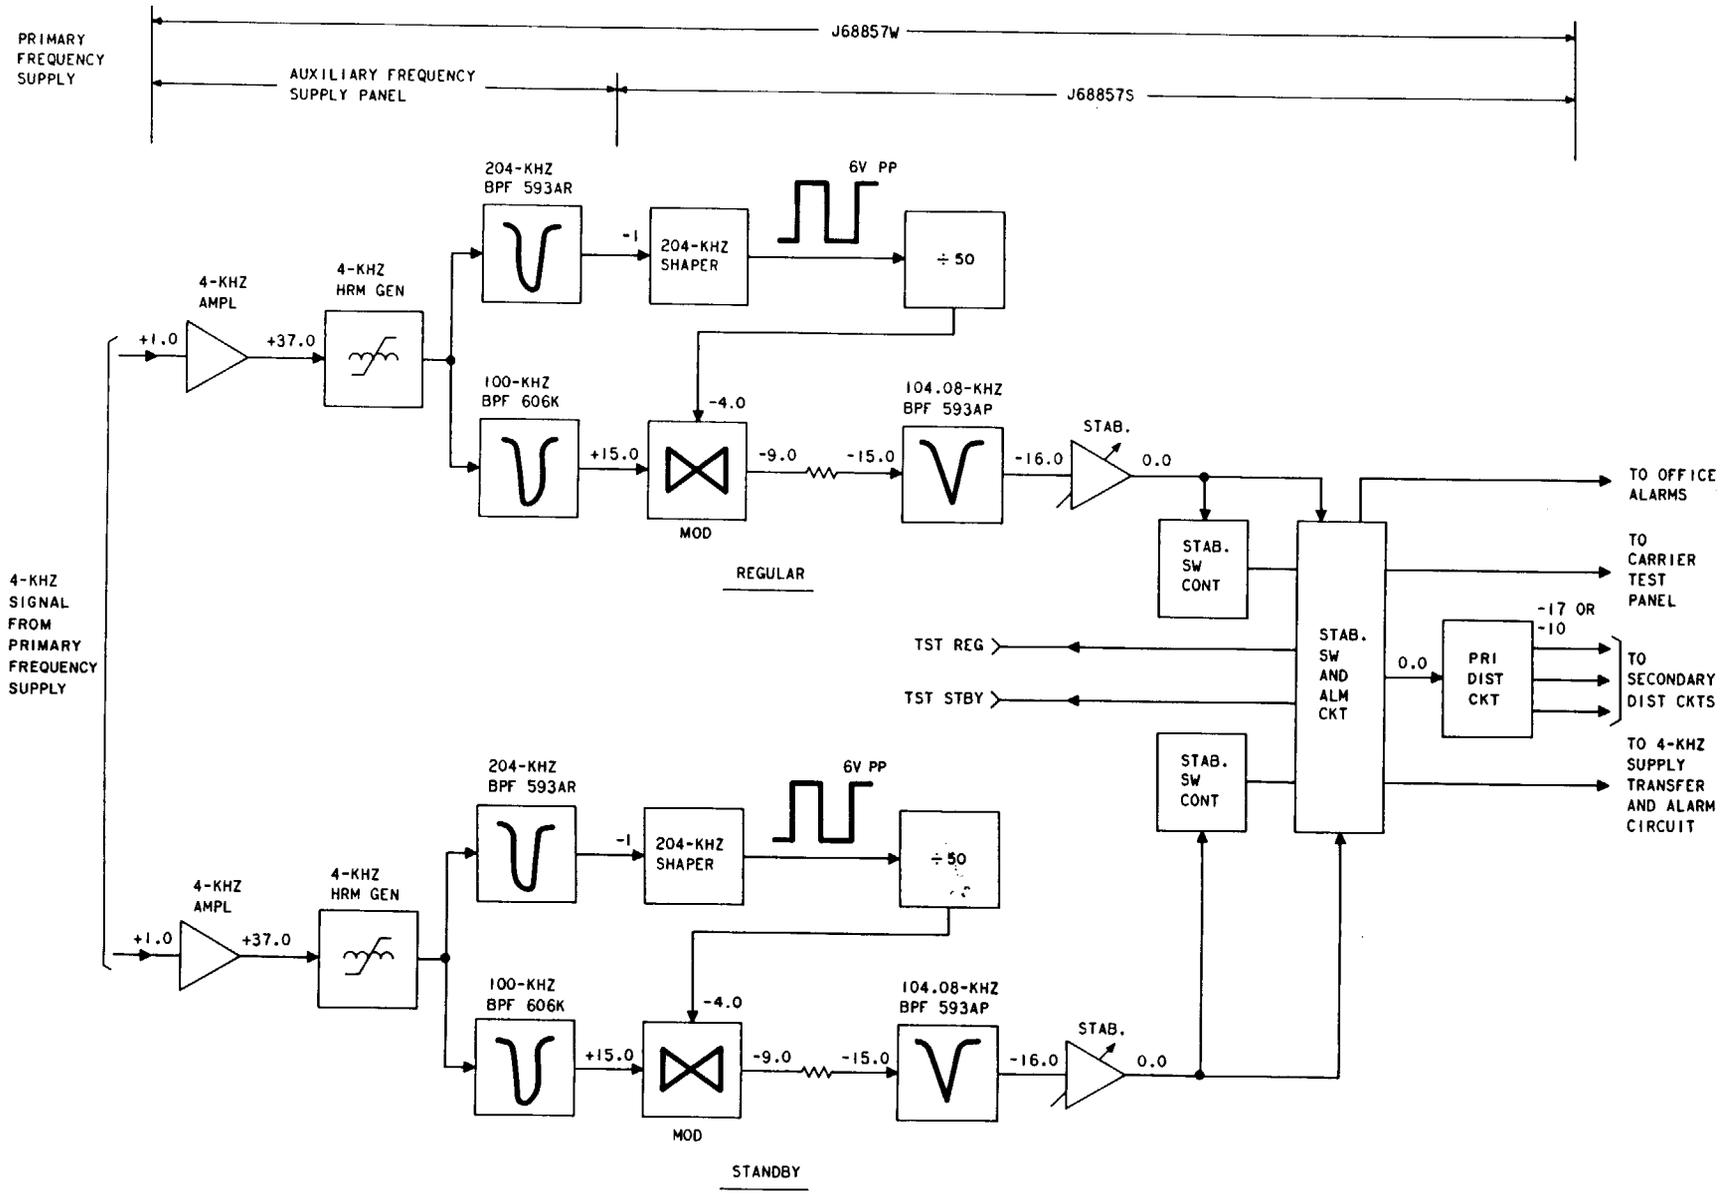

Fig. 2—104.08-kHz Pilot Supply Circuit
2.01 The 104.08-kHz pilot supply circuit (SD-50379) is shown in block diagram form in Fig. 2. The group pilot frequency is produced from the accurate 4-kHz output of a primary frequency supply. Two identical circuits, designated regular and standby, produce stabilized 104.08-kHz signals. Either the regular or standby output is connected, via the stabilizer switch, to a primary distribution circuit which serves up to three secondary distribution circuits.